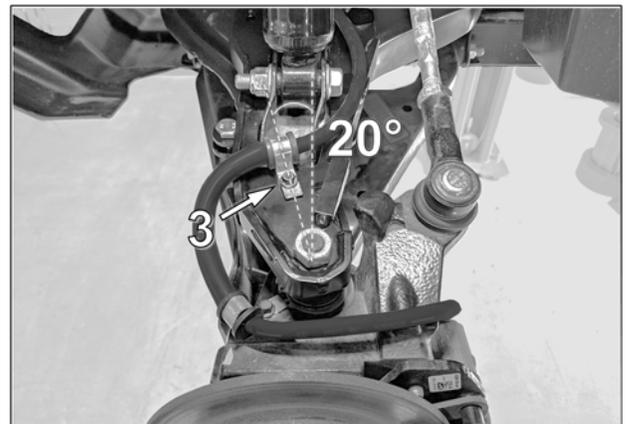

Fig. 22
12. Position hose clamp at a 20-degree angle from the original OEM position and reinstall hose clamp bolt (3). See Fig. 22.